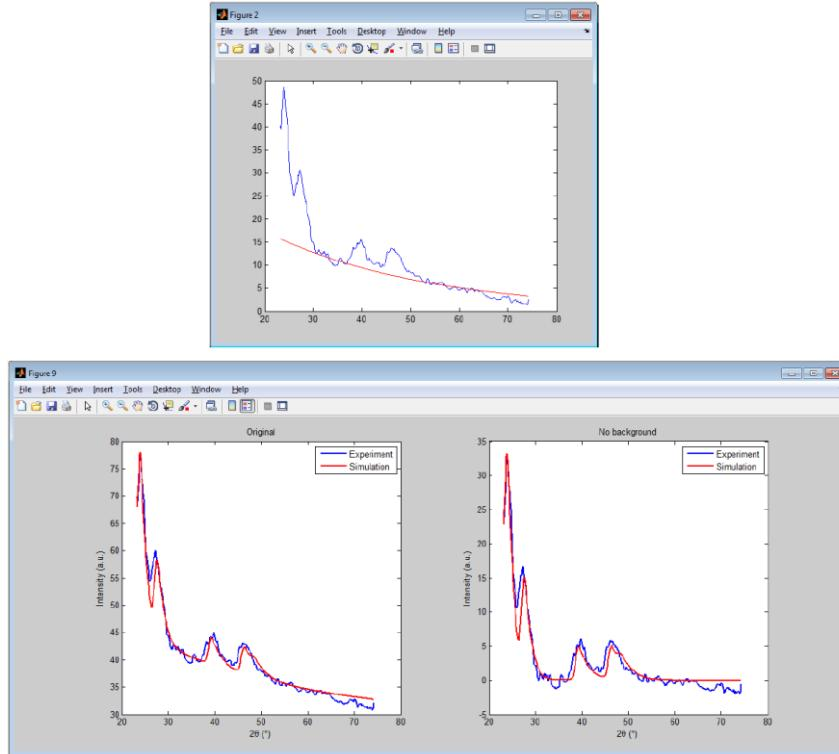

Figure 5.2: Overlay diffraction data and simulation
- 8) Once the background is defined, two windows with diffraction plots will pop up, as Fig. 5.2. The first plot shows the data and the defined background. The second figure shows the data and simulation in two formats. The left one with noise and background, and the right one without.